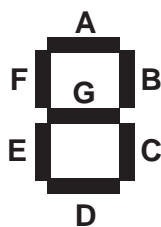

Figure 2
- D0...D17; D0 is the most left seven segment digit, the possible numbers displayed by one digit are shown in figure 2. The symbol ( ) is only displayed at D13, D14, D16 and D17 when setting the clock.